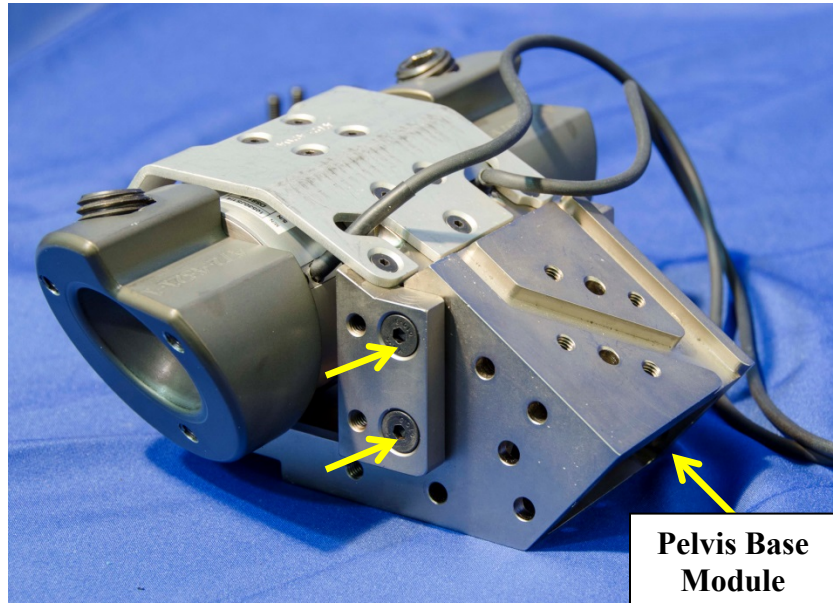

Figure 10-15. Mount sides of pelvis base module to pelvic box assembly
10.2.2.10 Mount the Pelvis Base Module (472-4211) to the pelvic box assembly using four M6 x 20 FHCS on the sides of the pelvis base module (Figure 10-15).